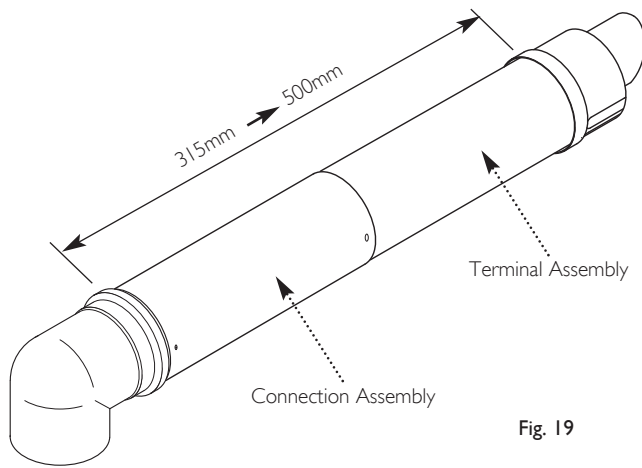

Fig. 19
2. The two sections can be adjusted to provide a length between 315mm and 500mm (Fig. 19) when measured from the flue elbow (there is 50mm engagement into the elbow).